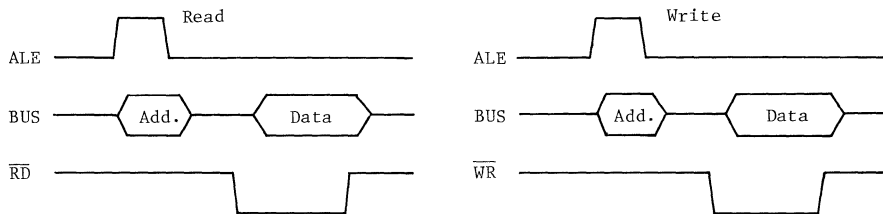

Fig. 6 Timing of Accessing External Data Memory
- Figure 6 illustrates the timing of accessing the external data memory during execution of external program.